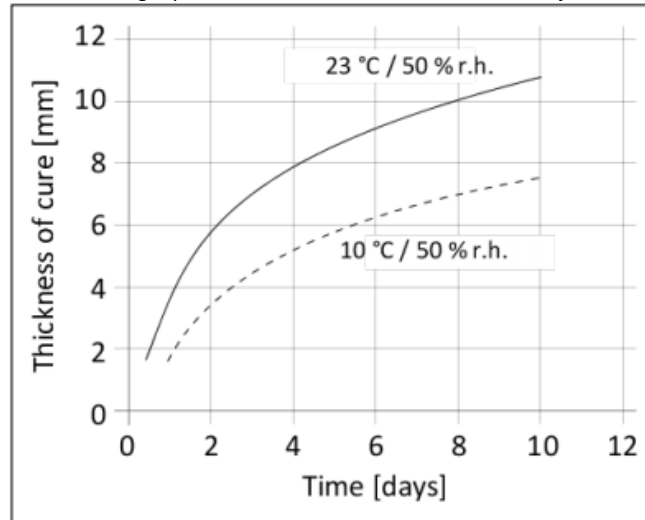

Figure 3.
**Do Not proceed with fitting any hardware to the frame until the glue has set and the frame is securely in place (at least 24 hours). Figure 3.**